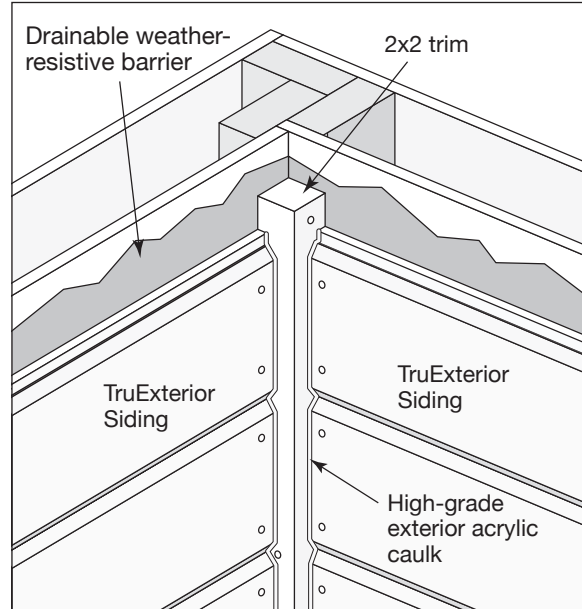

Fig. 8
- Butt each course of siding up to the corner trim and secure in place (**Fig. 8 & 8a**)
- Seal the joint between the corner trim and the siding with high-grade exterior acrylic caulk (**Fig. 8 & 8a**)